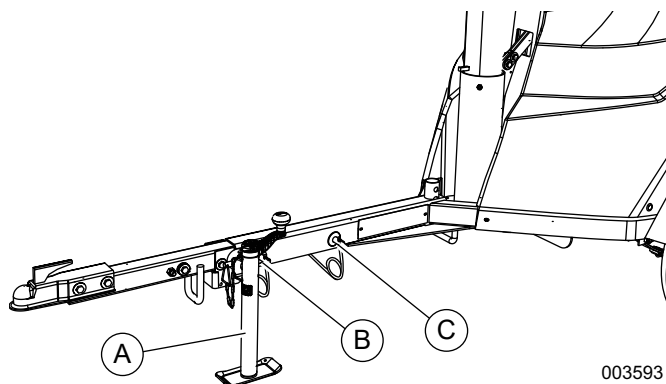

Figure 2-7. Extend Jack and Remove Pins
2. See Figure 2-7. Extend jack (A) enough to allow minimum effort to pivot trailer tongue into storage position.